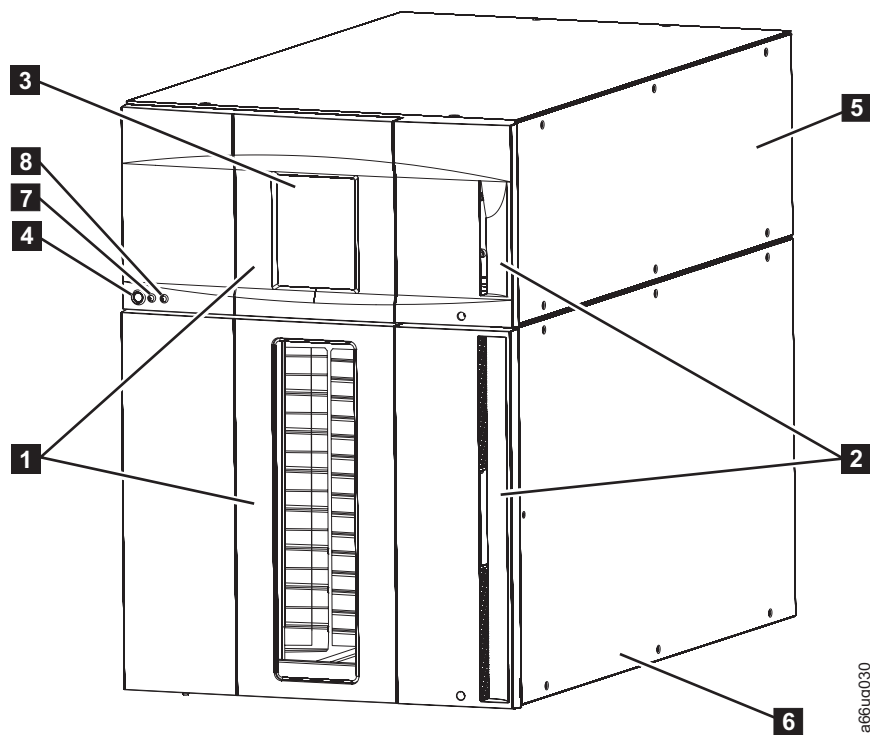

Figure 1-1. Front panel of a 14U library
All library configurations include the control module (**5** in Figure 1-1 on page 1-2). The control module contains the robotics, library control blade (LCB), and touch screen display. The control module also contains an I/O station, fixed storage slots, tape drives, and at least one power supply.
The 9U expansion module (**6** in Figure 1-1 on page 1-2) is a supplementary module that is attached below the control module in a 14U library. Like the control module, the expansion module also provides fixed storage slots, tape drive slots, and power supply slots. The I/O station in an expansion module can be configured as storage.
I/O Stations (**2** in Figure 1-1 on page 1-2) are located on the front panel of the library and enable the importing and exporting of cartridges without interrupting normal library operations. A control module I/O Station has a capacity of six cartridges. A 9U expansion module I/O Station has a capacity of 12 cartridges.
This door is locked by the I/O Station. To open the Access Door (**1** in Figure 1-1 on page 1-2), you must first open the I/O Station.
The Operator Panel (**3** in Figure 1-1 on page 1-2) is the touchscreen display device located on the Access Door of the control module. Library operations and service functions are performed from this screen.
Pressing the Power Button (**4** in Figure 1-1 on page 1-2) on the front panel of a control module turns the Picker and Operator Panel ON or OFF; however, power is still applied to the power supplies. The Power Button is used during library shutdown and to manually reboot the library.
- Green power ON LED (**7** in Figure 1-1 on page 1-2): When lit, this LED indicates that the library power is ON.
- Amber Operator Intervention Alert LED (**8** in Figure 1-1 on page 1-2): When lit, this LED indicates that there is a Library, Drives, or Media Operator Intervention available. To access the Operator Intervention, select **Tools** → **Operator Intervention** from the Operator Panel.